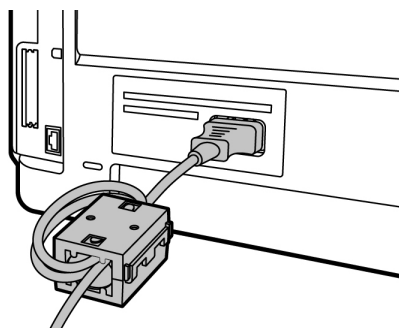

Figure 6-48. Ferrite installed on printer power cable
7. Install the ferrite (Laird model 28A5776-0A2) on the printer's power cable, looped two times two inches from the end that will plug into the printer (Figure 6-48).